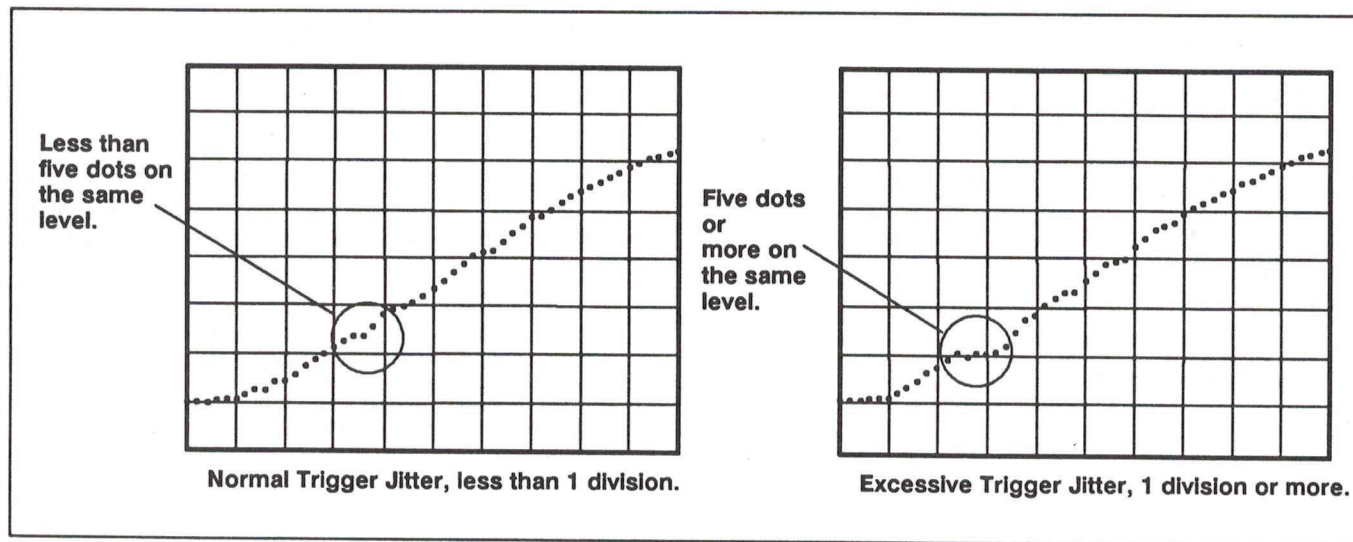

Figure 4-2. Trigger Jitter check.
- g. CHECK that there are no more than four dots in a row that occur at the same (or lower) level on the rising edge of the signal (see Figure 4-2).